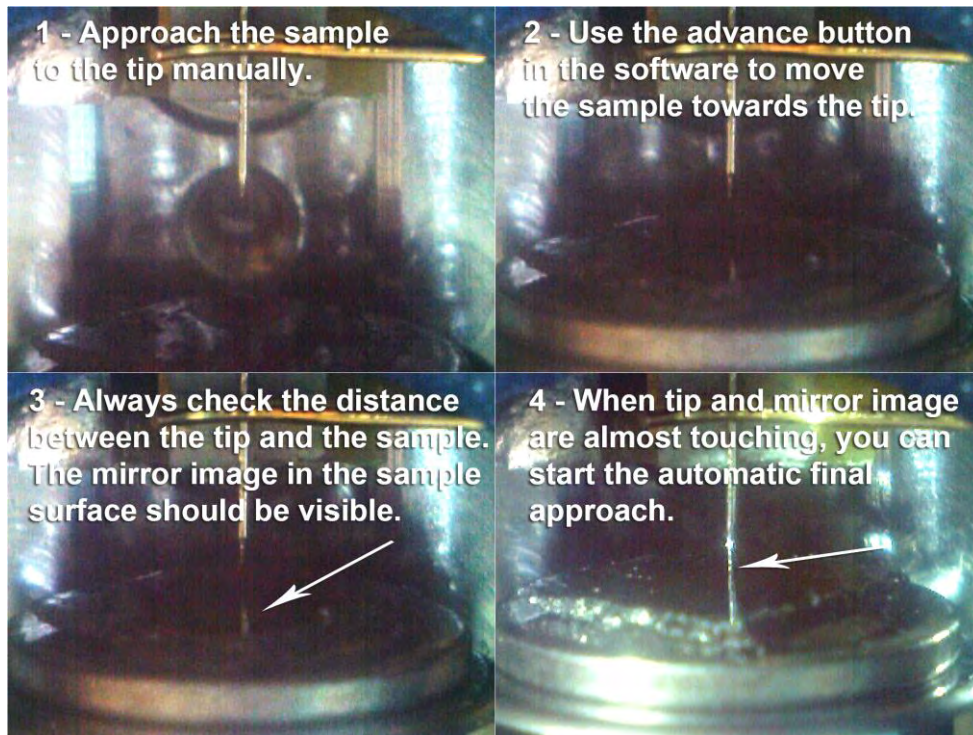

Fig. 9: Step by step pictures of the software supported approaching of the sample to the tip.
- Push the sample holder carefully in the direction of the tip (b), but don't let it touch the tip (1 cm distance). See also the step-by-step pictures in Fig. 9.